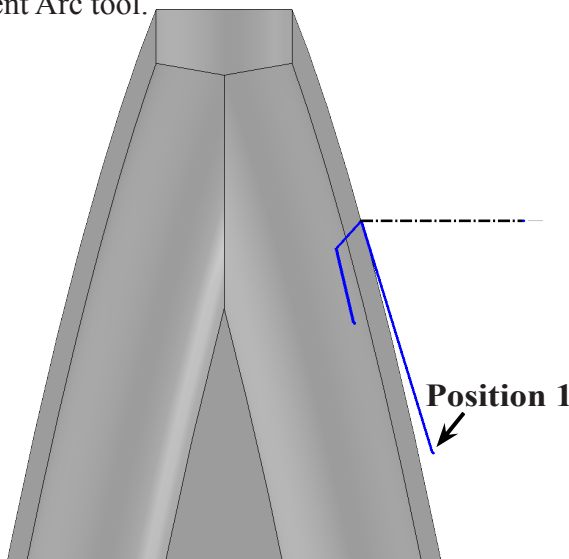
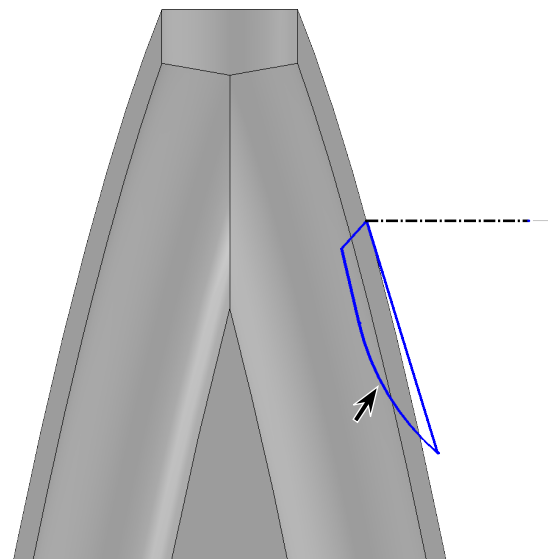

Fig. 30
Fig. 31
Step 7. Click **Line**  (L) on the Sketch toolbar.
Step 8. Sketch **3 lines and autotransition to tangent arc**, **Fig. 30** and **Fig. 31**. To make the sketch, Start at Position 1 outside the Nose Cone body and sketch a line to left endpoint of construction line. Continue line at angle back into the sweep cut, then down somewhat parallel to first line. Use autotransition to transition from line to tangent arc. To transition, move cursor away from endpoint of line. Move cursor back to endpoint and away again to transition to Tangent Arc tool.